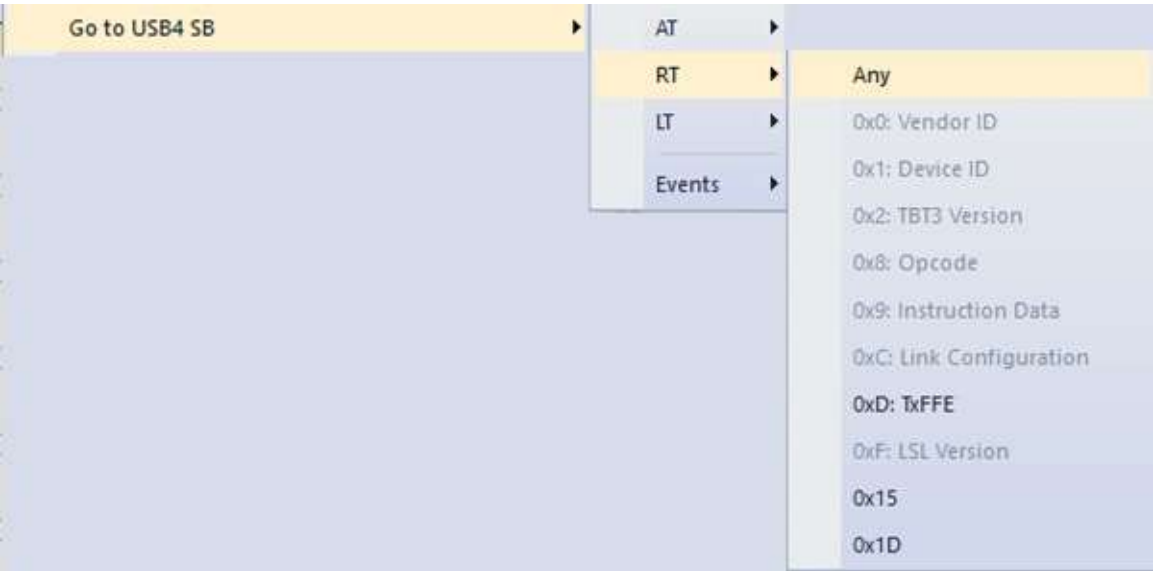

Figure 7.52: Go to USB4: RT
- ☐ RT: See Figure 7.52 on page 487.